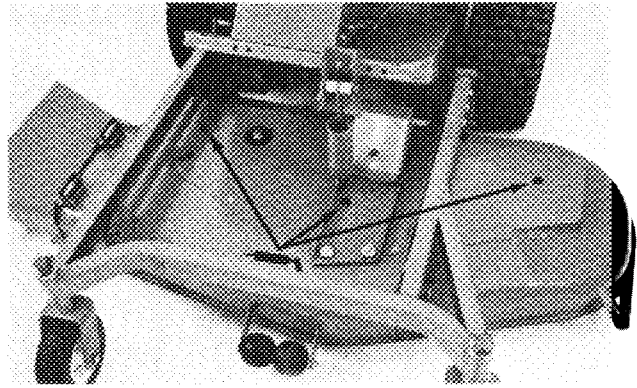
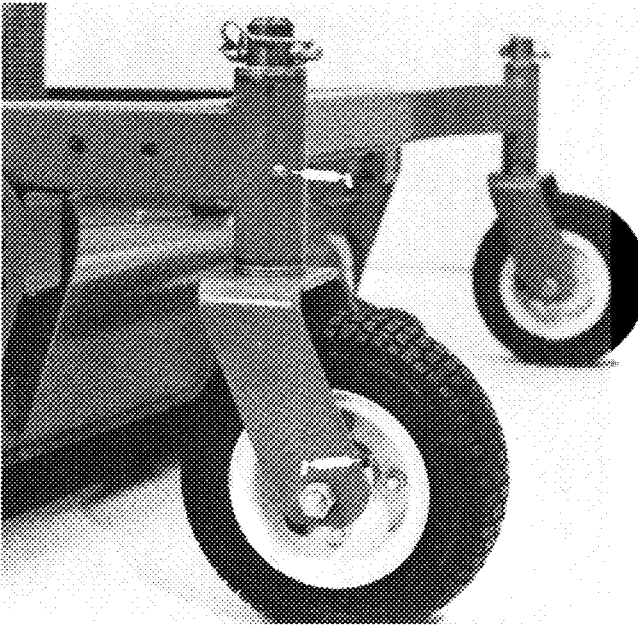

Figure 17
Figure 16
1. The cutting unit has bearings and bushings that must be lubricated, and these lubrication points are: caster spindle bushings (Fig. 16); castor wheel bearings (Fig. 16), and blade spindle bearings (Fig. 17).